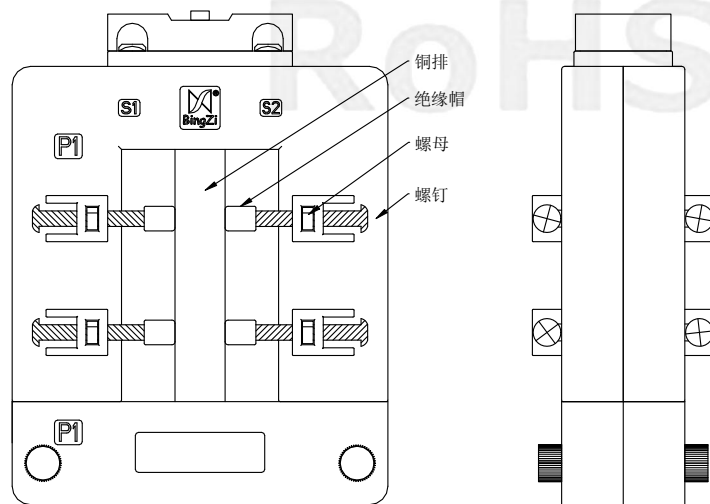

Figure 3
③ Installation instructions are shown in Figure 3